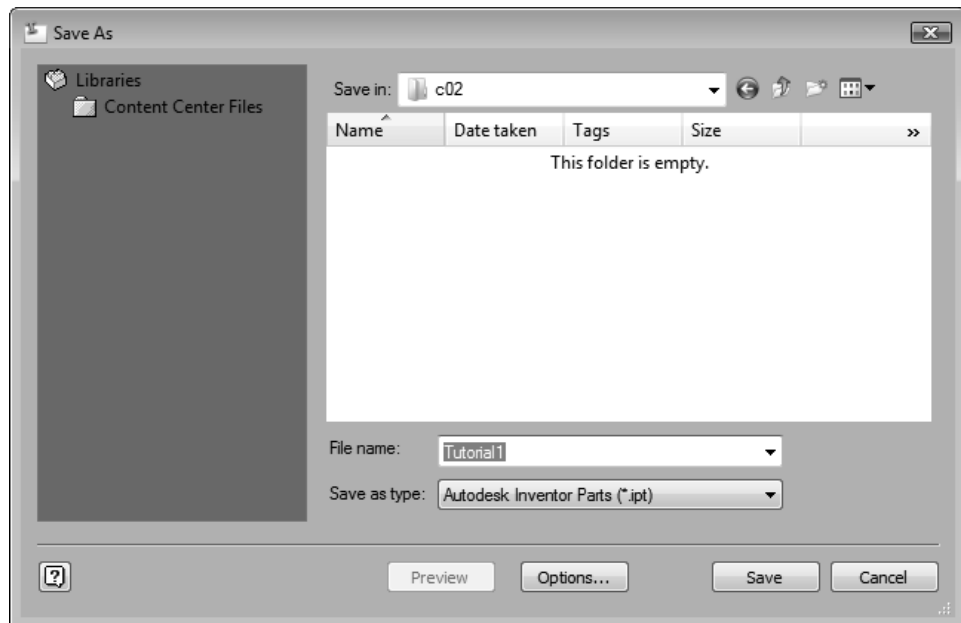

Figure 2-49 The Save As dialog box
4. Enter **Tutorial1** as the file name in the **File name** edit box, refer to Figure 2-49, and then choose the **Save** button from the **Save As** dialog box to save the sketch.